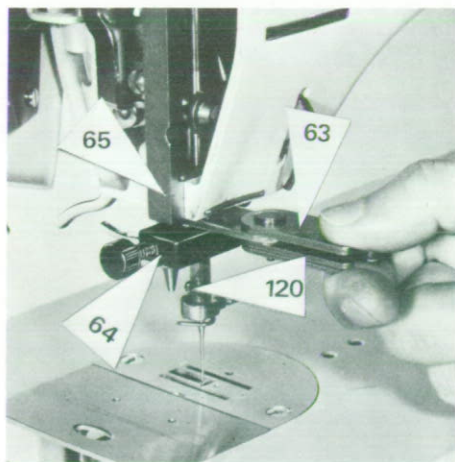
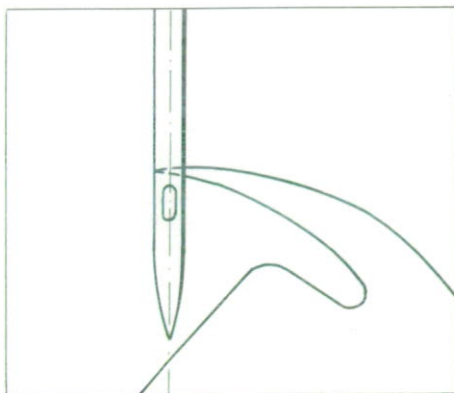

Fig. 26
Fig. 28
A clamping piece (64) 398 005 04 is fixed to the needle bar (120) in its lowest position, so as to allow the distance gauge (63) to be inserted between the lower edge of the frame and upper edge of clamping piece (64), i. e. 2.6 mm. (Fig. 26). The distance gauge is then removed and the handwheel turned in the direction of motion until the clamping piece (64) strikes the lower edge of the frame. In this position the tip of the hook must intercept the left outside edge of the needle. (Fig. 28).